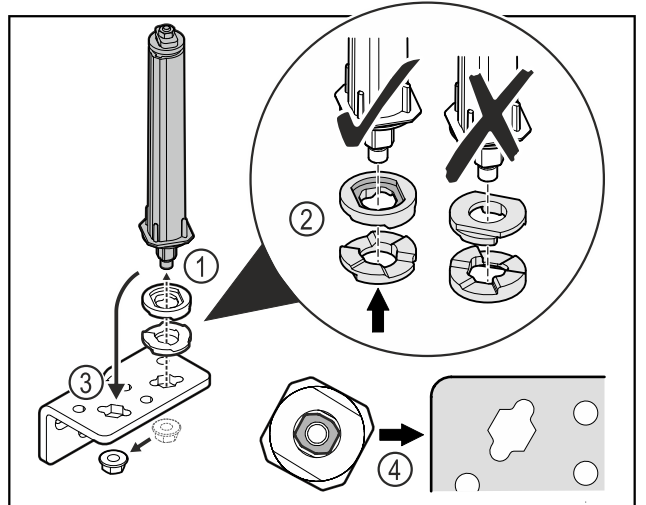

Fig. 20
- ▶ Loosen the nut and remove the door closing system Fig. 20 (1).
- ▶ Observe the correct alignment of the height adjustment washers Fig. 20 (2).
- ▶ Put the door closing system in the hinge and fix in place with the nut Fig. 20 (3).
- ▶ Observe the correct alignment of the door closing system when doing so Fig. 20 (4).